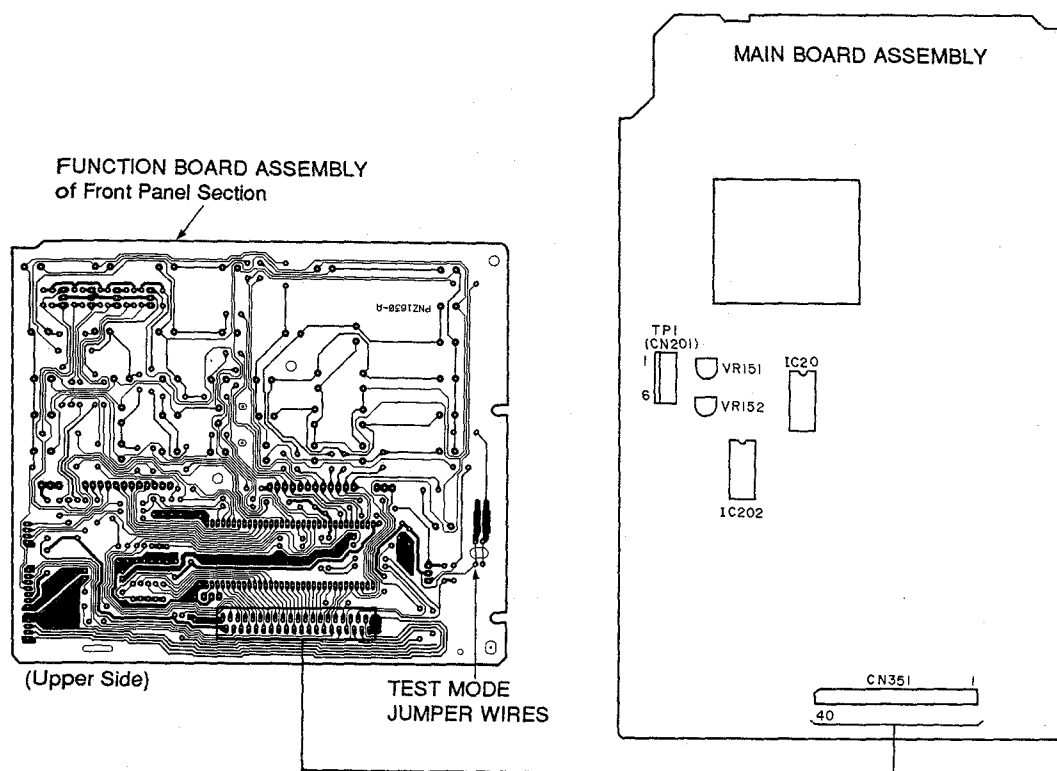

Figure 1 Adjustment Location
(For the location of CN206, see figure 1 on page 37.)
2. Short the test mode jumper wires. (See Figure 1.)